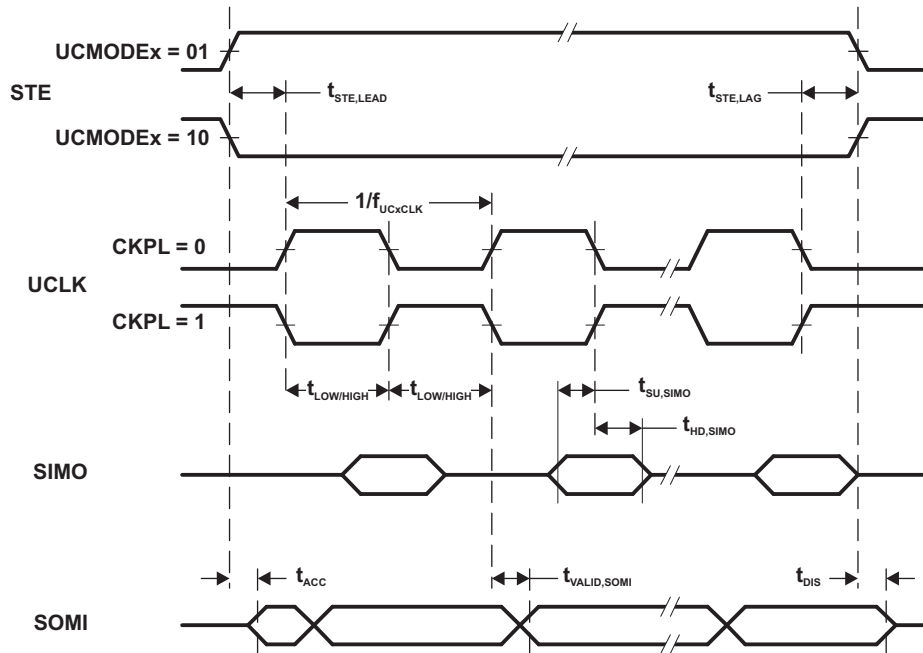

Figure 14. SPI Slave Mode, CKPH = 0
- (1)  $f_{UCxCLK} = 1/2t_{LO/HI}$  with  $t_{LO/HI} \geq \max(t_{VALID,MO(Master)} + t_{SU,SI(eUSCI)}, t_{SU,MI(Master)} + t_{VALID,SO(eUSCI)})$ . For the master's parameters  $t_{SU,MI(Master)}$  and  $t_{VALID,MO(Master)}$  refer to the SPI parameters of the attached slave.
- (2) Specifies the time to drive the next valid data to the SOMI output after the output changing UCLK clock edge. See the timing diagrams in Figure 14 and Figure 15.
- (3) Specifies how long data on the SOMI output is valid after the output changing UCLK clock edge. See the timing diagrams in Figure 14 and Figure 15.